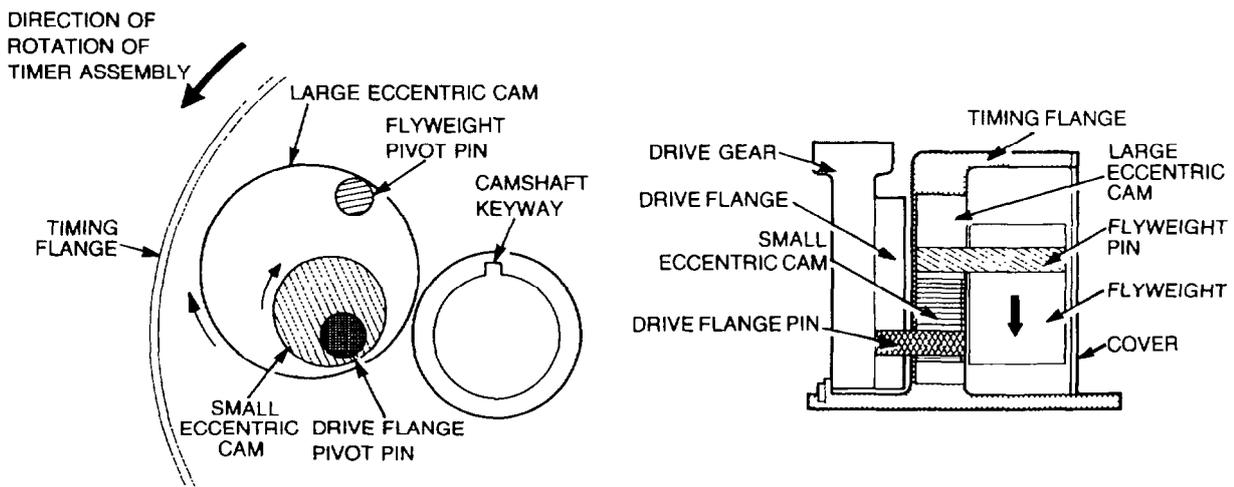

Figure 41 Automatic Timer – Static Position
80. When the engine is operating at idle speed, the setting force of the four springs prevents the flyweights from expanding outward, but as the engine speed is gradually increased, the centrifugal force of the flyweights overcomes the setting force of the springs and the flyweights begin to expand outward. When the flyweights expand radially, the pivot pins connecting the flyweights to the large eccentric cams cause the large cams to rotate within the machined holes in the timing flange. The rotation of the large cams affects the small eccentric cams, which are located in the machined holes in the large cams and connected by pivot pins to the drive flange. As the large cams rotate in accordance with the movement of the flyweights, the small cams, which are held in position by the pivot pins on the drive flange, are caused to rotate around the pivot pins and within the large cams. The combined rotational movement of the large and small cams causes the timing flange to turn ahead of the drive flange and gear timing mark, and because the timing flange is connected directly to the injection pump camshaft. The injection timing also advances the same amount (refer to Figure 41). The timing flange limits the outward movement of the flyweight, which in turn limits the injection-timing advance, regardless of any engine speed increase.